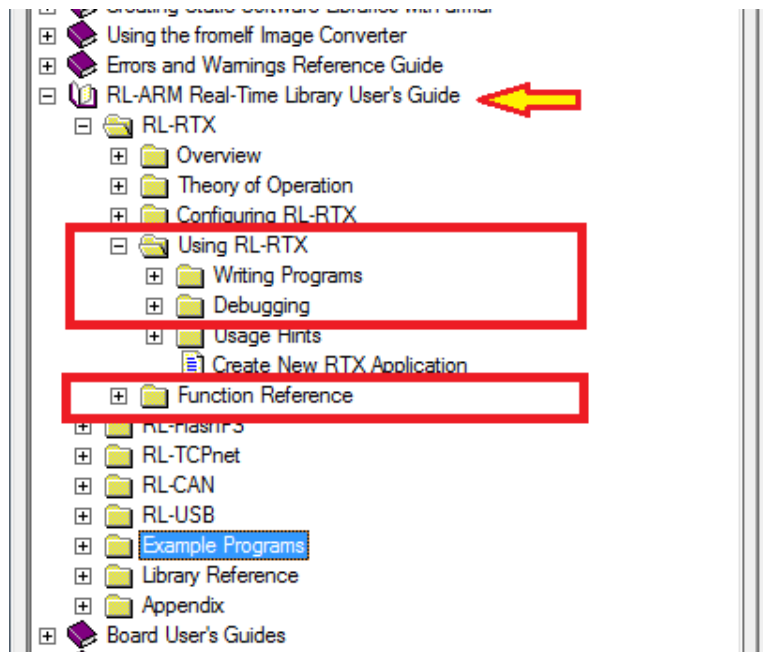

Figure 1.12: Keil IDE: RL-RTX Manual
5. Start a PuTTY terminal and make sure you have the correct configuration as shown in Figures 1.12(a) and 1.12(b).
The manual of the RL-RTX is accessible through the Keil MDK-ARM Help (see Figure 1.12). The highlighted sections are highly recommended to read through.